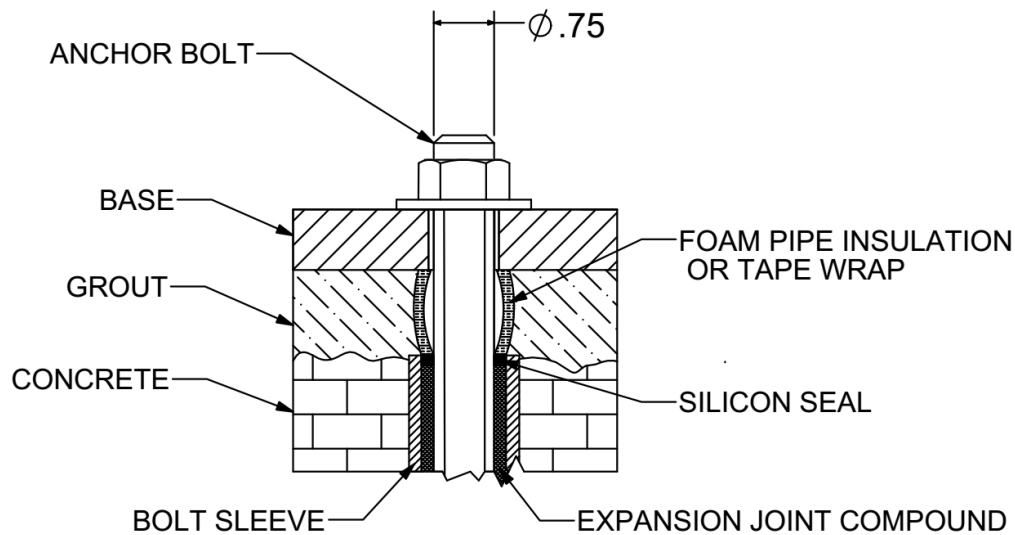
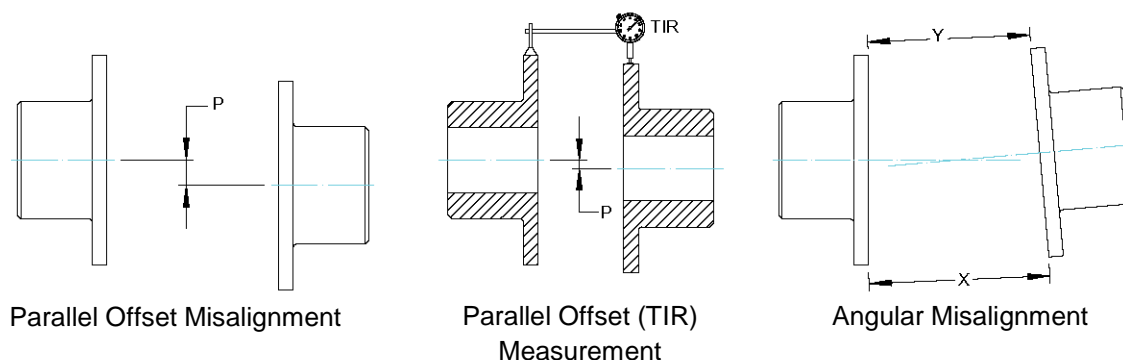

Figure 4. Grouting and Foundation Bolting
Figure 5. Coupling Alignment
Hydraulic Institute (HI) recommends a foundation capable of absorbing vibration at least five times the weight of the pumping unit and to form a permanent, rigid support for the base plate. Consequently, maintaining the pump to driver alignment is important for a flexible coupled unit, refer to Figure 5. A concrete foundation on a solid base is recommended. Use foundation bolts of the proper size embedded into the concrete. A pipe sleeve larger in diameter than the bolt should be used. This allows movement for final positioning of the bolts. Refer to Figure 4, Grouting and Foundation Bolting.
2. The “Parallel Misalignment” value (P) is the offset between the centers of the hubs, as shown in Figure 5.
3. When the Parallel Offset is measured by rotating the hubs in unison with dial indicators as shown in Figure 5, the Total Indicator Reading (TIR) should be divided by (2) to calculate (P).
5. The “Angular Misalignment” value is the maximum difference between the measurements X and Y taken at opposite ends of the hub flanges, as shown in Figure 5.